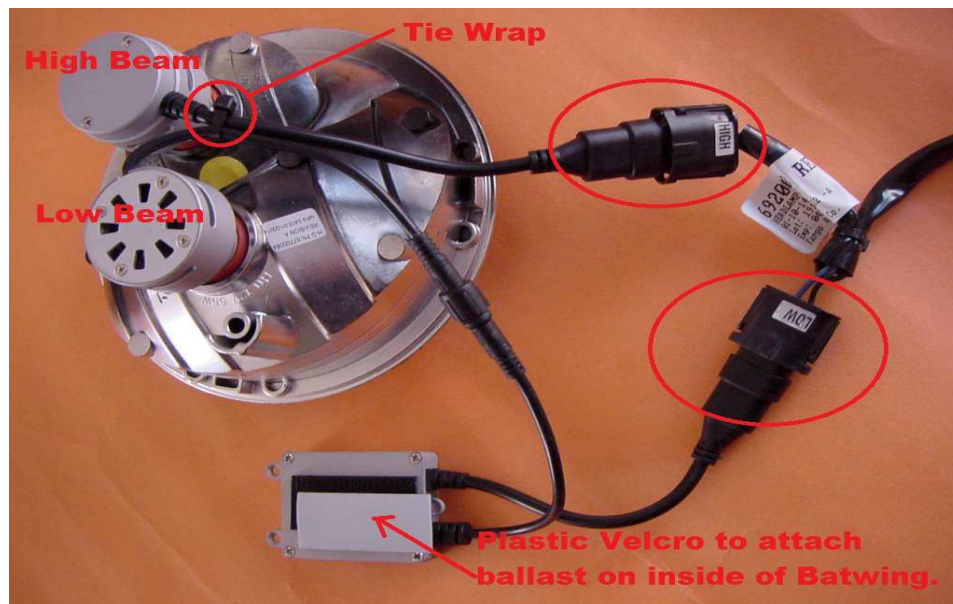

Figure 7
- 8). See image image below, Figure 7. This is how the completed installation should look prior to reinstalling the fairing. The ballast is supplied with a plastic Velcro attachment. Install the ballast on a smooth surface (clean surface with Alcohol prior to applying plastic velcro) on the inside of the batwing fairing. Make sure all wires are properly secured with tie wraps and no wires are under stress otherwise the wires will be damaged.